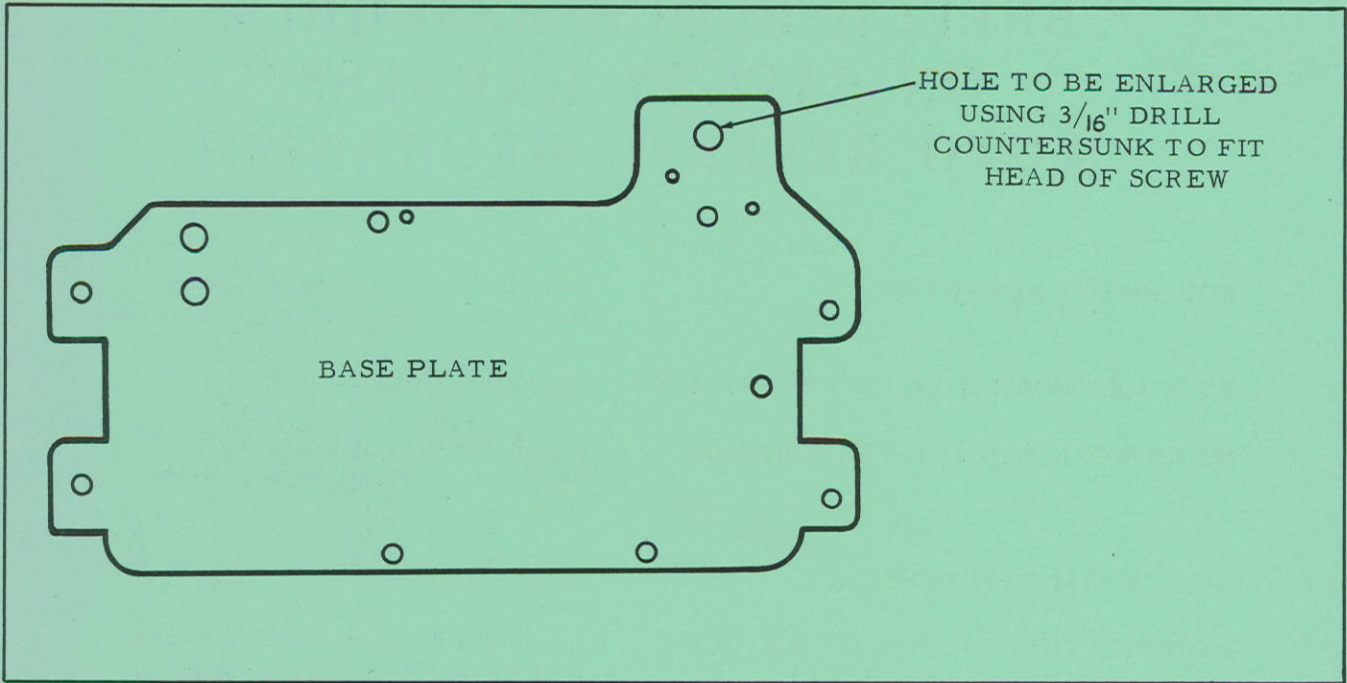

Figure 1
- (d) Using 3/16" drill enlarge hole as shown in Figure 1. Hole is to be countersunk to fit the chamfer of 1/4" 2BA screw head. Head must fit flush to surface of base plate when tightened.